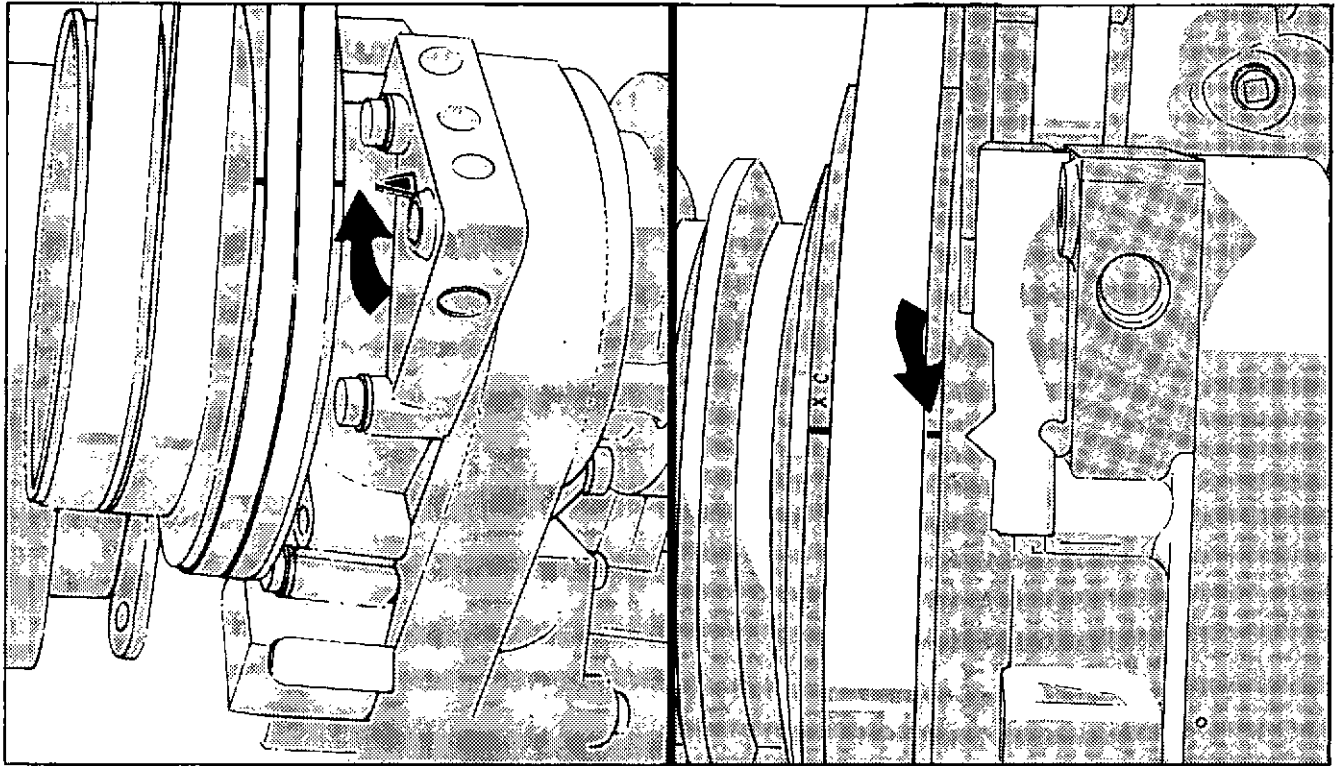
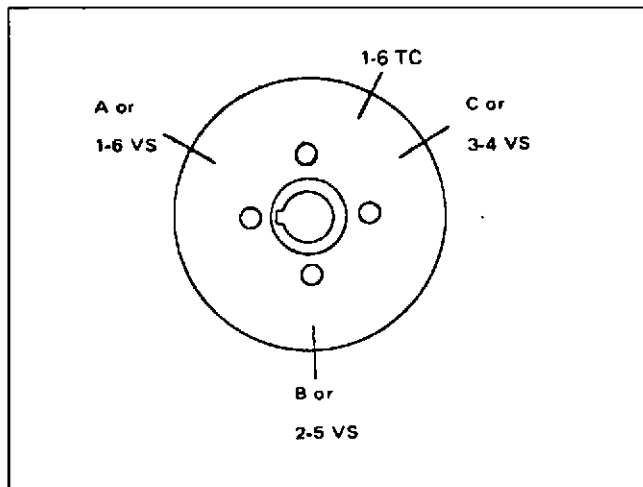

Fig. 14-70 (OM1050L). Align The Timing Marks With Pointer On The Gear Cover.
Fig. 14-71 (N114230). The Timing Marks On The Accessory Drive Pulley.
on the accessory drive pulley with the pointer on the gear cover, Fig. 14-70 and Fig. 14-71.
1. Rotate the crankshaft in the direction of engine rotation. Align the mark on the pulley with the pointer on the gear cover. Check both cylinders indicated on the pulley (Fig. 14-71) to see which valve rocker levers are loose. Adjust the injector of the cylinder in which the rocker levers are loose.